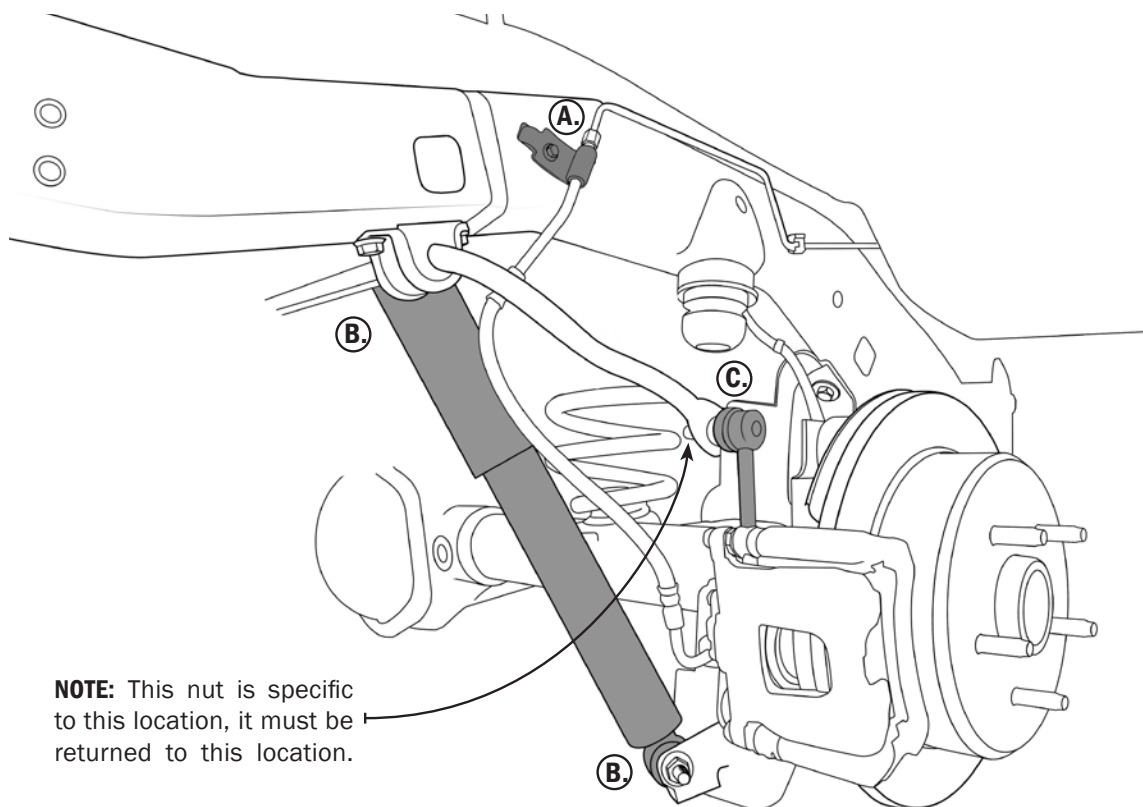
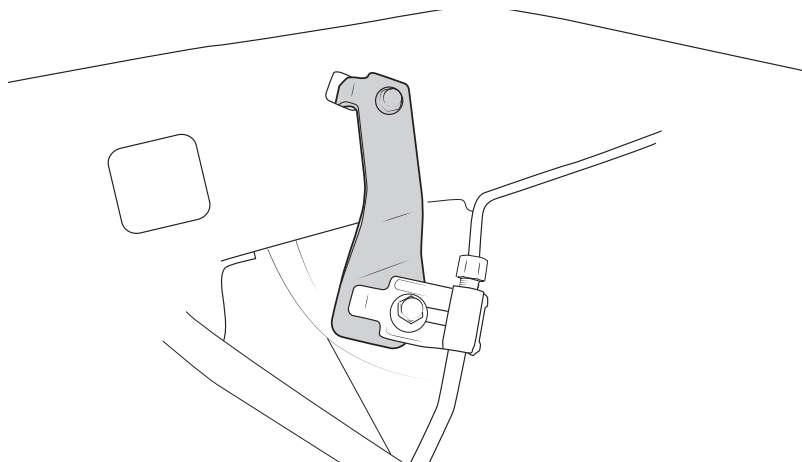

Figure 4
Figure 9
6. Remove the bolts that hold the brake lines to the frame (Fig. 4 A).
7. Remove the shocks (Fig. 4 B).
8. Remove the sway bar end links and save. You will reuse the hardware for the rear and the end links will be installed on the front of the vehicle. Note the orientation of the end links, the new end links will be installed in the same way (Fig. 4 C).
16. Install AEV sway bar end links and tighten.\* Re-install lower shock nut and bolt and tighten\* (refer to Fig. 4-B.) Install brake line drop brackets as shown (Fig. 9) and tighten.\*